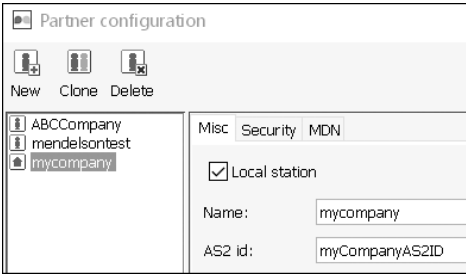

Figure 7.32 Own Partner Configuration in Mendelson
- The defined **AS2 id** for the local Mendelson AS2 partner configuration (Figure 7.32) needs to match with the **Partner AS2 ID** in the **AS2** sender channel (refer to Figure 7.29).